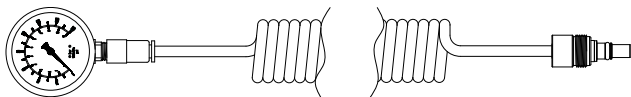

Figure 51: CP target gauge VS-32344
4. **Remove** tire hose at hubcap and **install** CP target gauge (Figure 51).